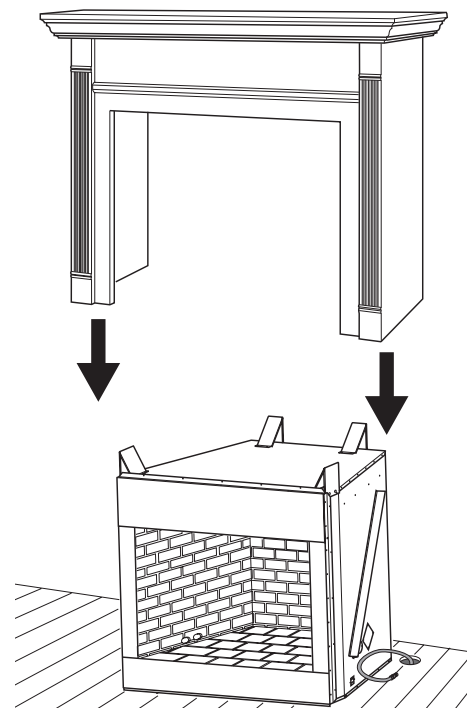

Figure 12 - Inserting Firebox into Cabinet Mantel (Mantel May Vary From Illustration)
4. Carefully slide cabinet mantel over firebox. Be careful not to scratch firebox, cabinet mantel, flooring, etc., when installing (see Figure 12).